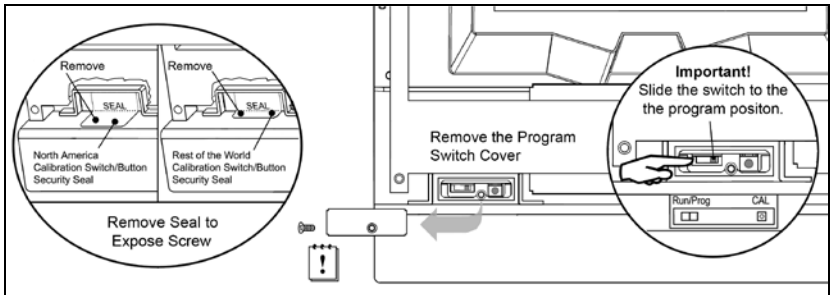
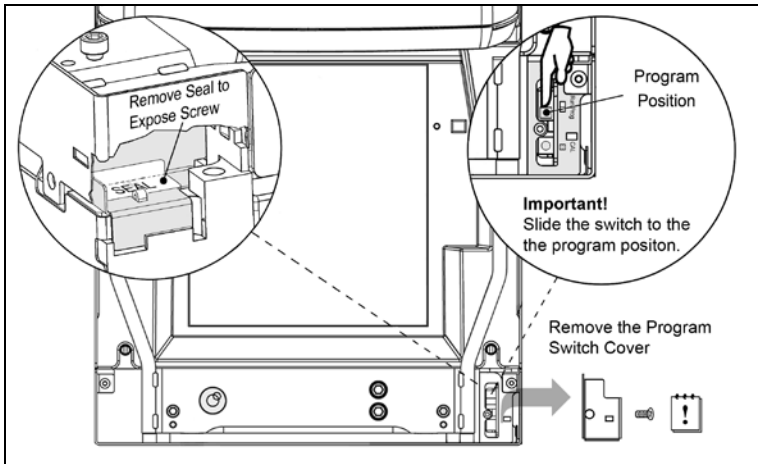

Figure 2. StratosE and StratosH Calibration Seal and Switch Location
Figure 3. StratosS Calibration Seal and Switch Location
2. **Cut and remove** the security seal over the program/calibration switch cover. See Figure 2 below for seal location on the StratosE and the StratosH models. See Figure 3 on page 4 for the seal location on the StratosS.
4. **Enter the scale program mode** by sliding the switch to the *program* position. See Figure 2 below for the switch location on the StratosE and StratosH. See Figure 3 on page 4 for the switch location on the StratosS.